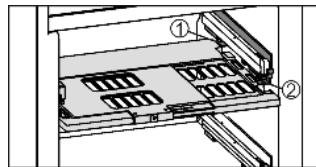

Fig. 9
- ▶ To insert the humidity control plate: Insert the cover mouldings of the plate into the rear holder *Fig. 9 (1)* from underneath and engage them in the holder *Fig. 9 (2)* at the front.